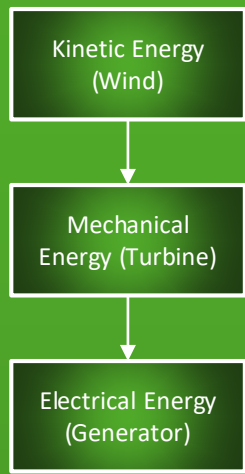

Figure D3.1. A simplified three-step process of how energy is converted from kinetic energy to electrical energy by wind turbines.
**Wind power** is power that is generated by harnessing kinetic energy from the wind and transforming it into electricity through a series of steps. See *Figure D3.1* for the simplified three-step process.
- ❑ There are a few different configurations of blades, but the most common by far is the **horizontal axis wind turbine** as shown in *Figure D3.1*. This giant three-blade tower is what most people think of when they imagine **wind farms**.